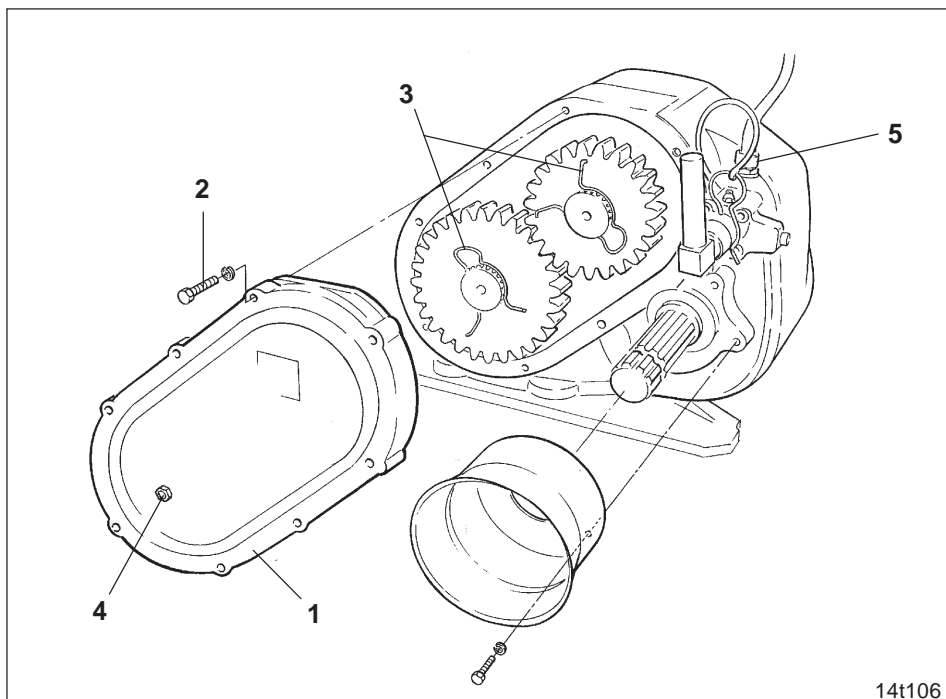

Fig. 9.14
- Reduce the oil level by draining the oil using the oil drain (Fig. 9.15/2). The collected oil can be poured back into the gearbox through the opening channel in the breather (Fig. 9.14/5) after the gears have been exchanged, provided that the oil is still clean.
- Remove the gearbox lid (Fig. 9.14/1) after the hex. bolts (Fig. 9.14/2) have been removed.
- Retaining springs (Fig. 9.14/3) secure the gear wheels against axial movement on the shaft stubs. Remove retaining springs. Pull the gear wheels (Fig. 10.14/1) off the shaft stubs. Interchange the gear wheels in the gearbox following the speed table (Fig. 9.13) or replace by another set of gear wheels.
- Install retaining springs (Fig. 9.14/3) on both shafts.
- Close gearbox lid (Fig. 9.14/1) with the lid gasket (Fig. 9.7/4).
- Pour back the gear oil through the opening channel in the breather screw (Fig. 9.14/5). When the soil tillage implement is in level position, the oil coating must be visible in the oil level (Fig. 9.14/4). The total amount of gear oil is 4,8 l (85 S 90 gear oil).